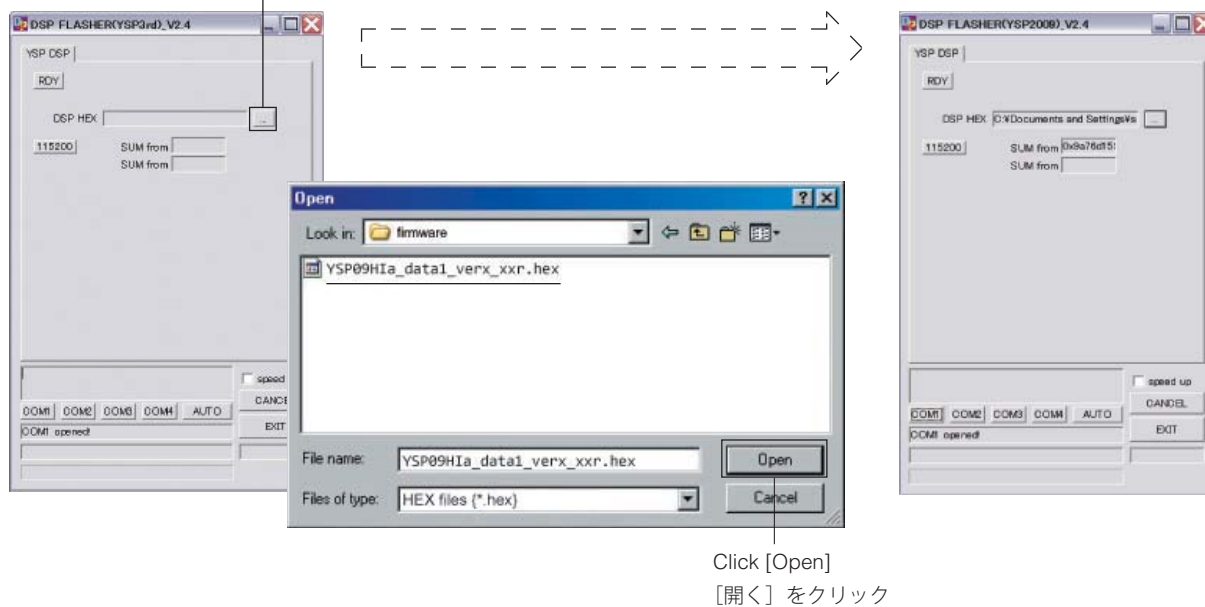

Fig. 2
3. Click [...] and select the firmware name. (Fig. 2)
(Fig. 2)